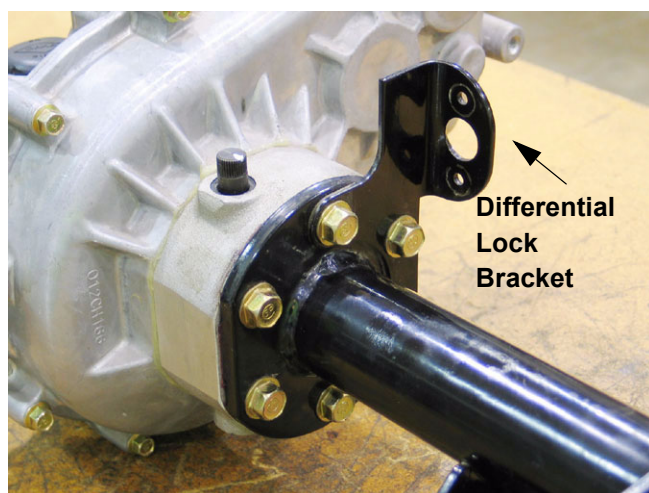

Figure 10.6
- 10.6. If not previously removed, take-off the bracket for the differential lock actuator using a 9/16" wrench. It is held by the same bolts that hold the right side axle tube and differential lock housing to the transmission housing. The mounting flange on the bracket should be vertical, toward the front of the transaxle. See Figure 10.6.